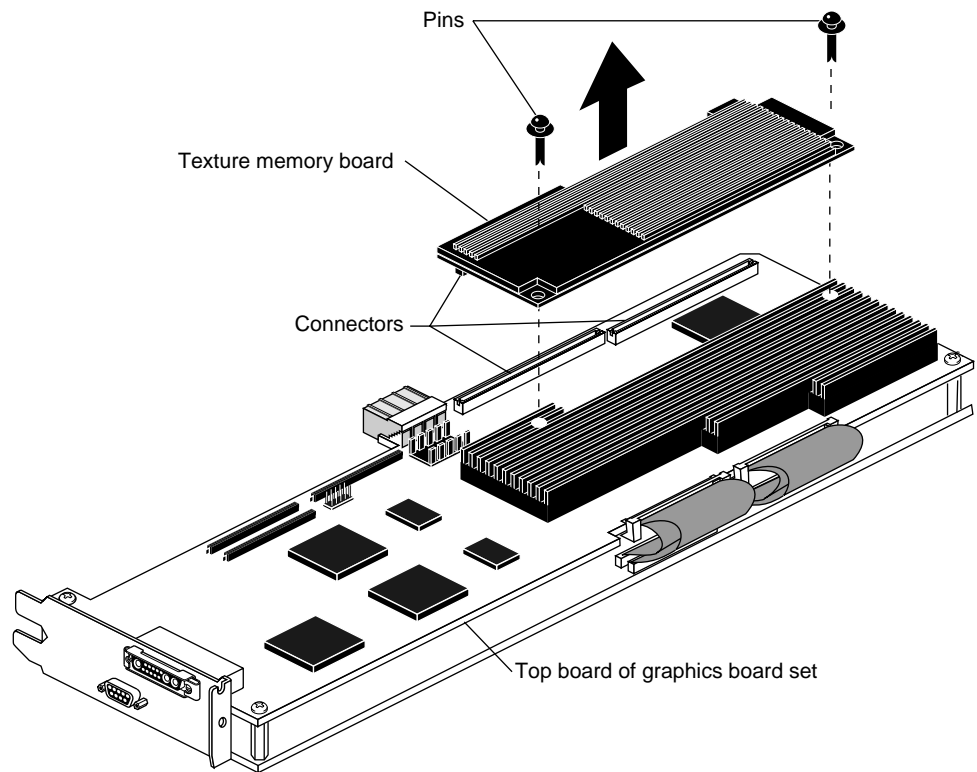

Figure 5-27 Removing the Texture Memory Board
See Figure 5-27.
- Slide your fingers under the edge of the texture memory board push up until the board is disconnected from the graphics board. See Figure 5-27.